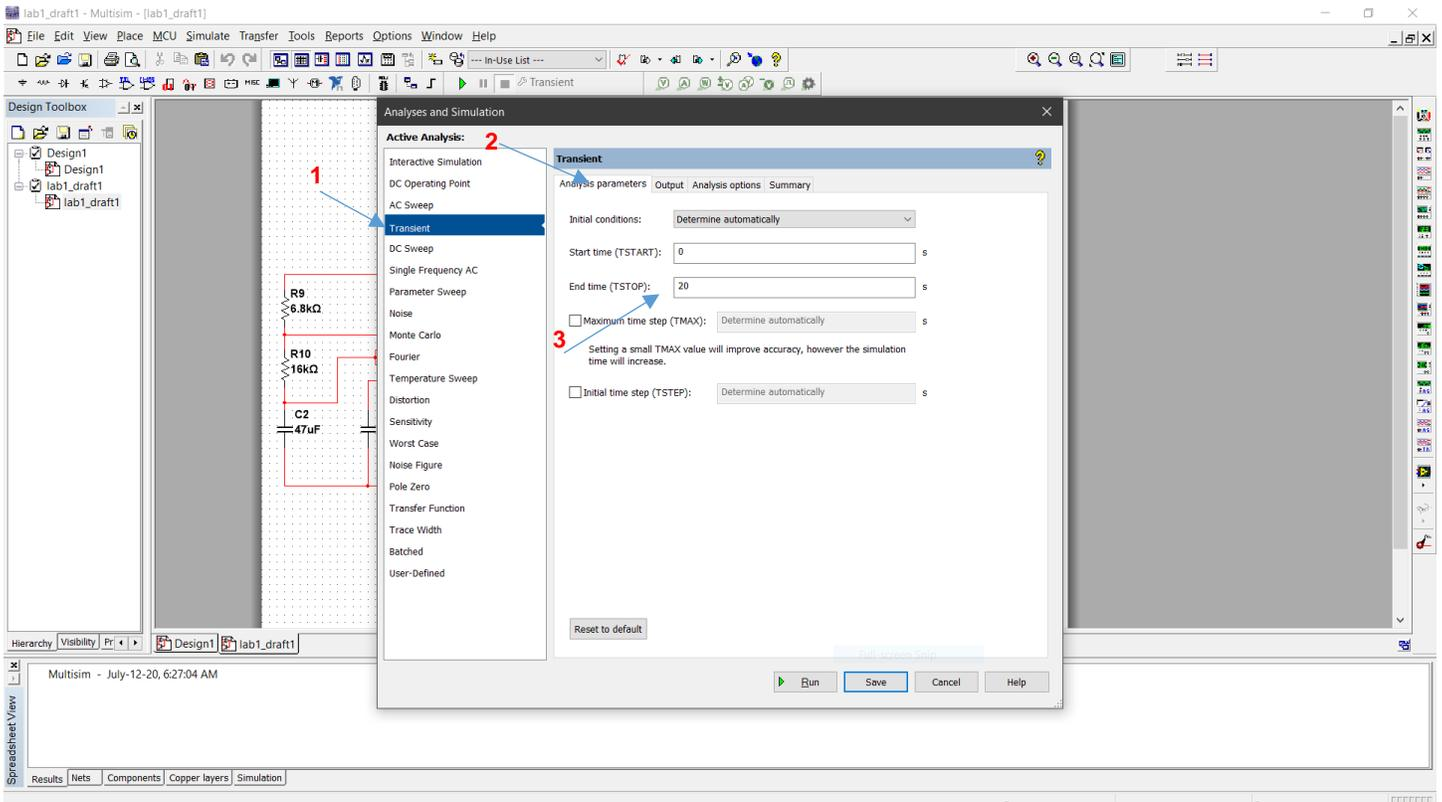

Figure 6
3. Follow steps 1 to 7 outlined in Figure 6 and Figure 7.